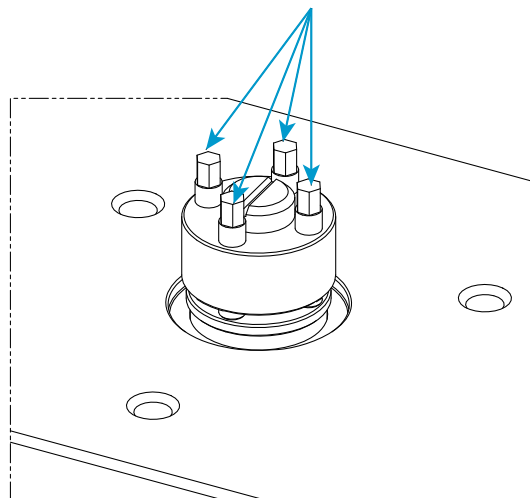

Figure 22. Mechanical tensioner assembly
12. Use the torque wrench (80-9-11) with the matching 5 mm hex drive socket (67-4-29) supplied in the mechanical tensioner kit to tighten the four set screws (shown in Figure 22 on page 94) on the mechanical tensioner to 14 N-m (10.3 ft-lb) according to the following procedure: